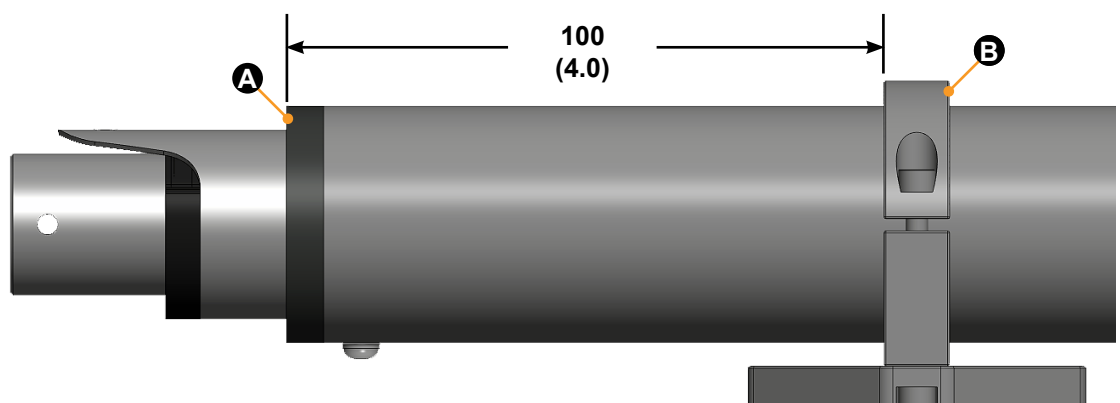

Fig.14
3. Measure from the telescoping end (Fig.14A) of the stationary actuator tube to the aft mounting clamp (Fig.14B). There should be no less than 100mm (4") between the end of the tube and the aft mounting clamp (Fig.14).